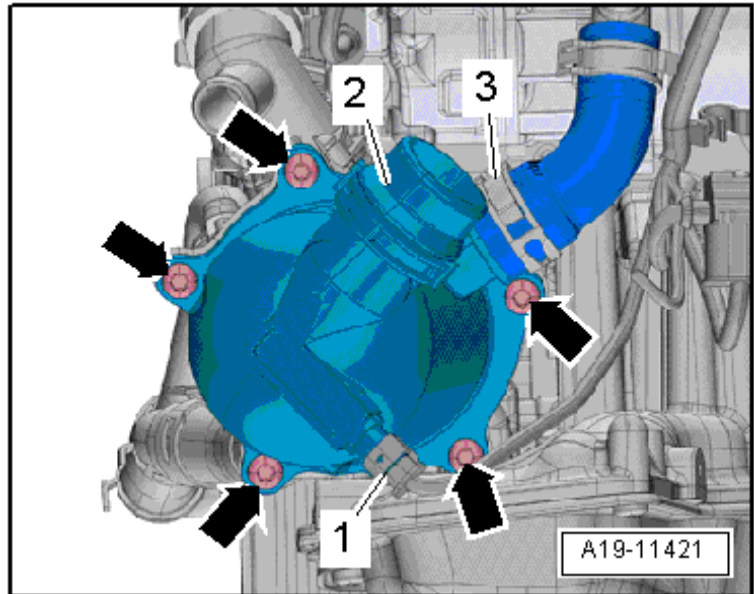
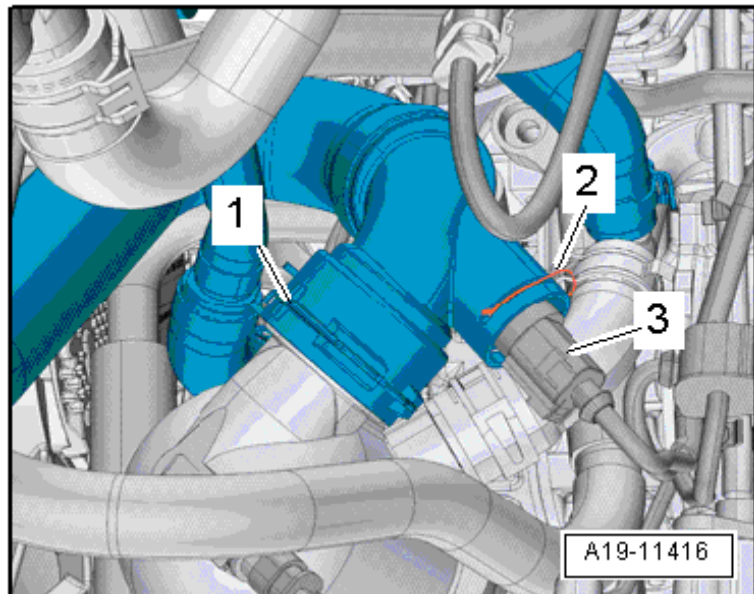

Figure 1. Coolant thermostat (2).
Figure 2. Quick release coupling (1).
1. Replace the coolant thermostat and the quick release coupling by following the instructions in *ElsaWeb >> Repair Manual >> Engine >> Engine Mechanical >> 19 Cooling System >> Removal and Installation >> Map Controlled Engine Cooling Thermostat -F265-* (Figure 1 and Figure 2).
Tip: The quick release coupling is located directly on the coolant thermostat. It is removed together with the coolant thermostat when the coolant thermostat is replaced. However, the coolant thermostat does not have to be removed when the quick release coupling is replaced (Figure 1 and Figure 2).